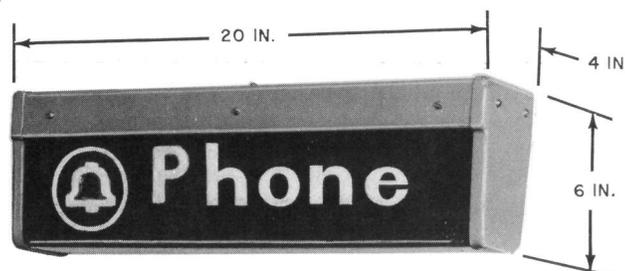
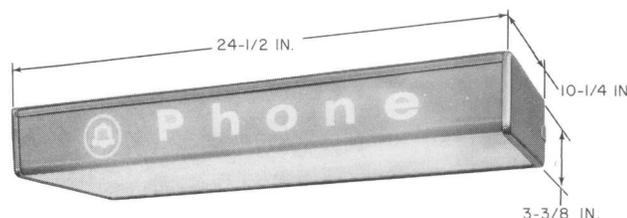
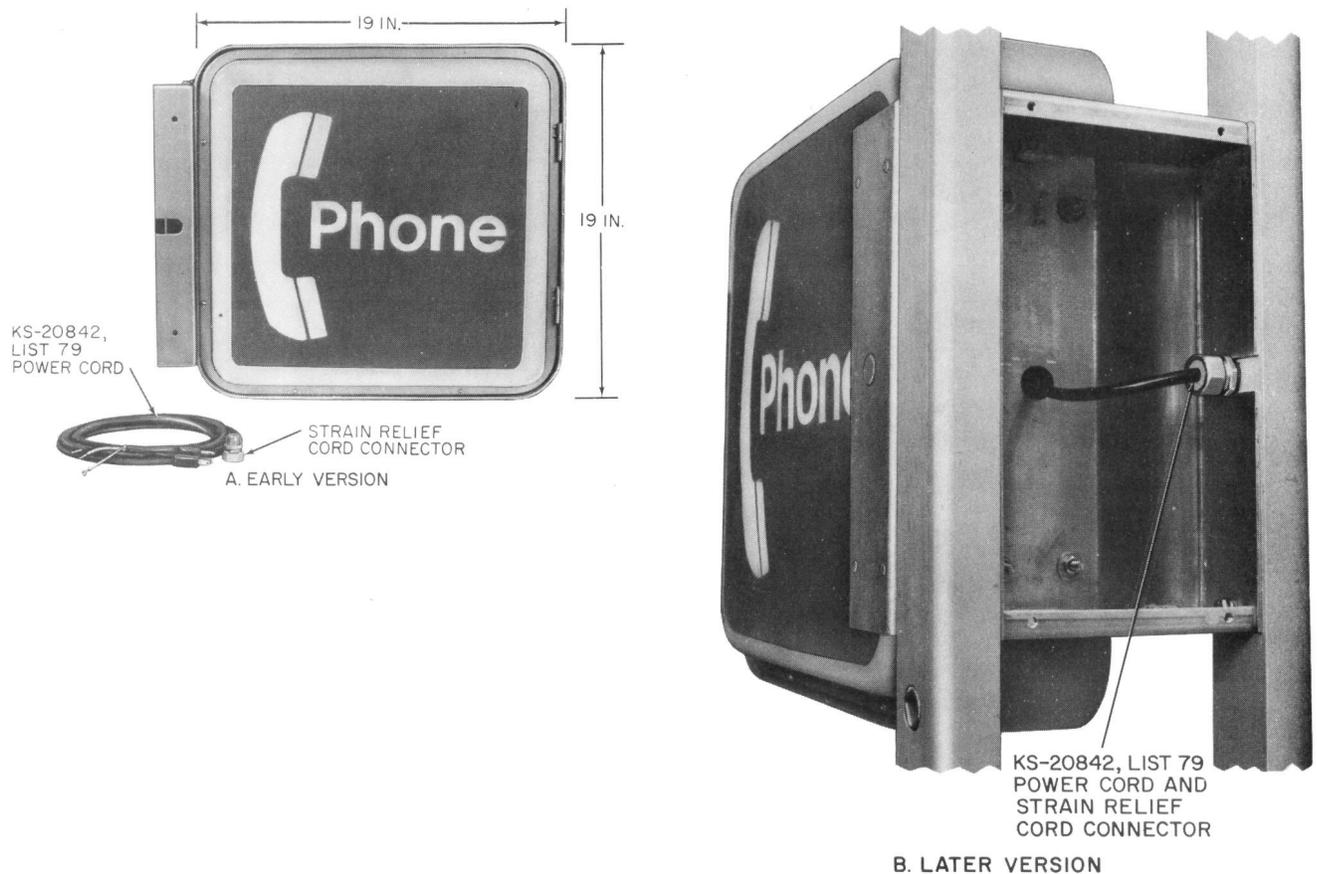

Fig. 1—KS-16422 Sign
Fig. 2—KS-19322 Sign for Phone Service
Fig. 6—♦KS-20135, List 3 Sign♦
1.01 This section contains information on KS-16422 (Fig. 1), KS-19322 (Fig. 2 and 3), KS-19681 (Fig. 4), KS-20031 (Fig. 5), and KS-20135 (Fig. 6) illuminated type phone signs.
Bottom area—white translucent plastic (Fig. 2).
2.19 The KS-20135 sign (Fig. 6) is a double-sided sign designed for mounting on telephone booths, masts, and wall mountings.